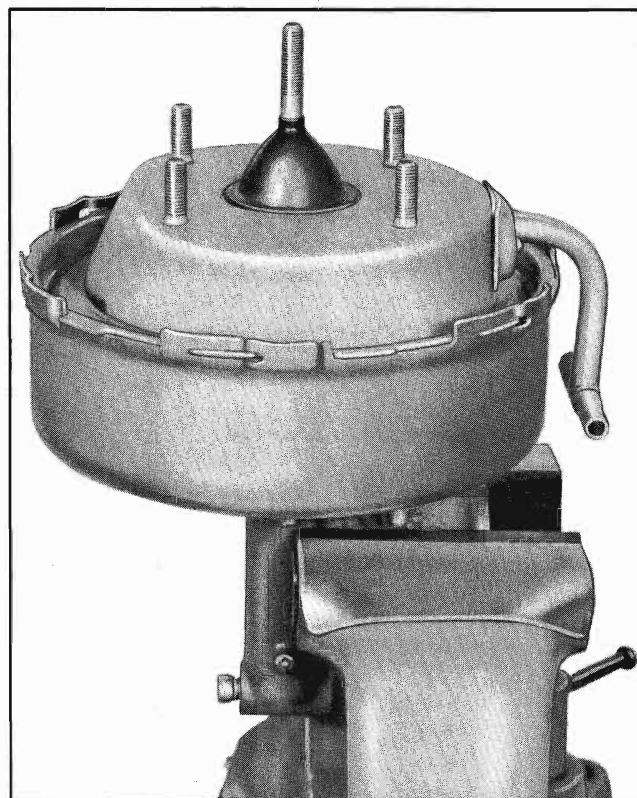

Fig. 5-M-6 Delco-Moraine Brake Mounted in Vise
1. Disconnect vacuum hoses from reservoir and carburetor pipe at vacuum inlet manifold. Cover hose and pipe openings to exclude dust, dirt, etc. (Fig. 5-M-5).